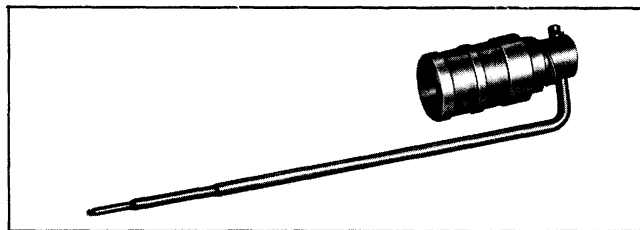

Fig. 6B-73 Step Up Rod and Piston Assembly
4. Remove choke connector rod (Fig. 6B-72).
5. Remove two step-up piston cover plate attaching screws and cover plates (Fig. 6B-72).
6. Remove two step-up rods and step-up pistons. If desired, step-up rod may be separated from piston by unhooking step-up rod retaining spring from end of rod (Fig. 6B-73). Remove two step-up rod piston springs.